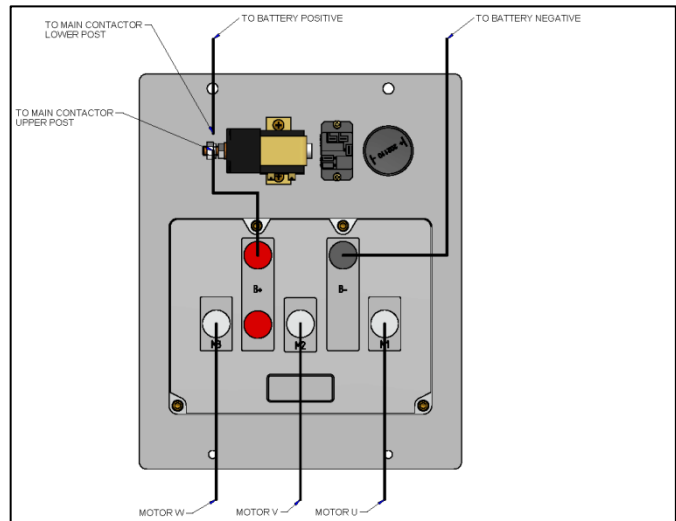

Figure 9-20
4. Figure 9-20 show the AC controller and contactor connections.